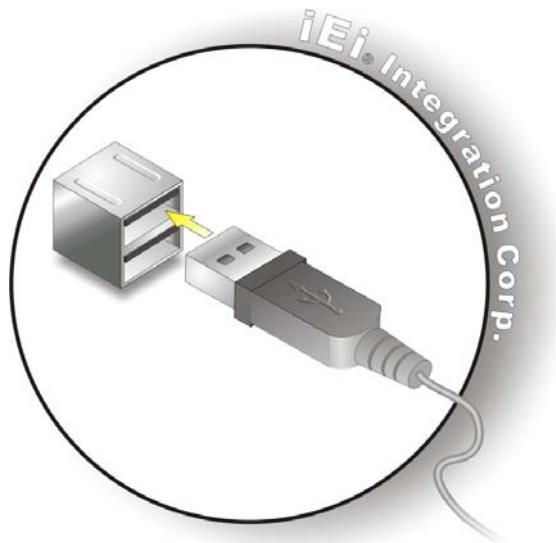

Figure 3-19: USB Device Connection
Step 5: Align the connectors. Align the USB device connector with one of the connectors. See **Figure 3-19**.